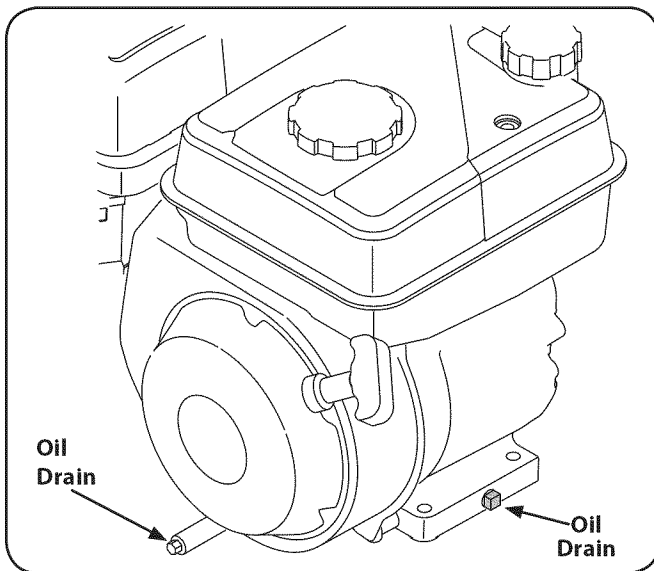

Figure 6-2
6. Remove the Oil drain plug. See Fig. 6-2.
**NOTE:** Depending on which engine model you have, the oil plug may be positioned differently. These positions include on the front and/or rear side of the block, or as an extended tube. Examples are shown in Fig. 6-2.